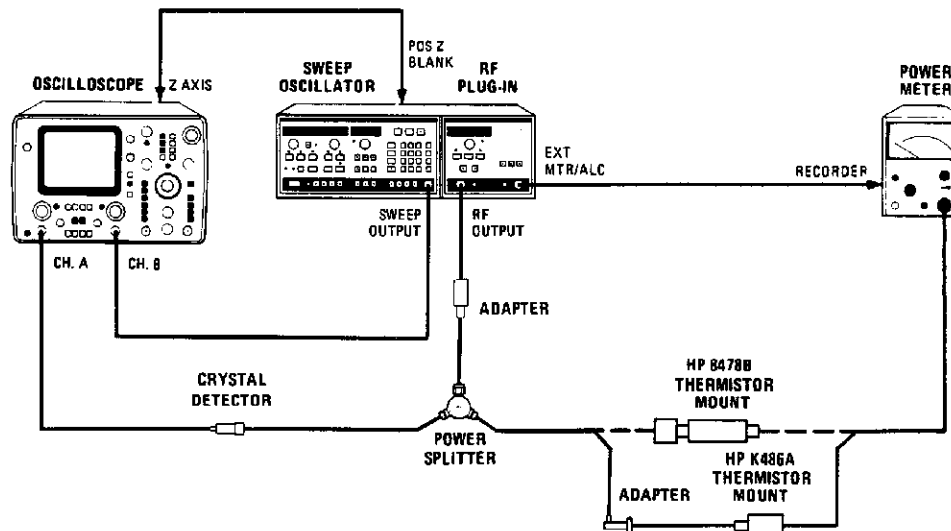
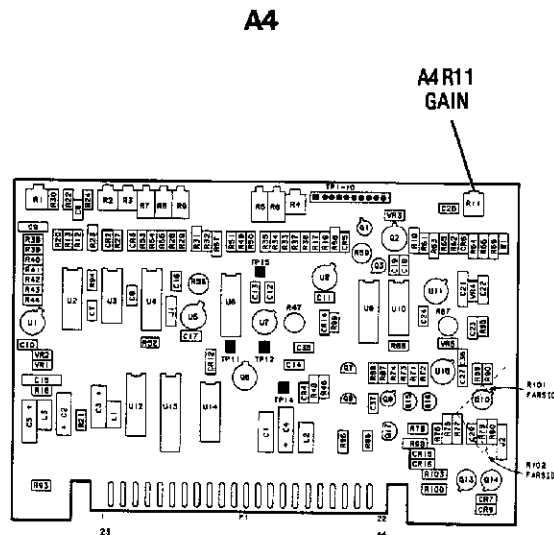

Figure 5-41. ALC Gain Adjustment Test Setup
Figure 5-42. ALC Gain Adjustment Location
1. Connect the equipment as shown in Figure 5-41 with the HP 8478B Thermistor Mount connected to the Power Splitter. Preset A4R11 (GAIN) fully counterclockwise. Refer to Figure 5-42 for the adjustment location. Allow the equipment to warm up for one hour.
14. Reconnect the equipment with the HP K486A Thermistor Mount and the Adapter connected to the Power Splitter as shown in Figure 5-41.